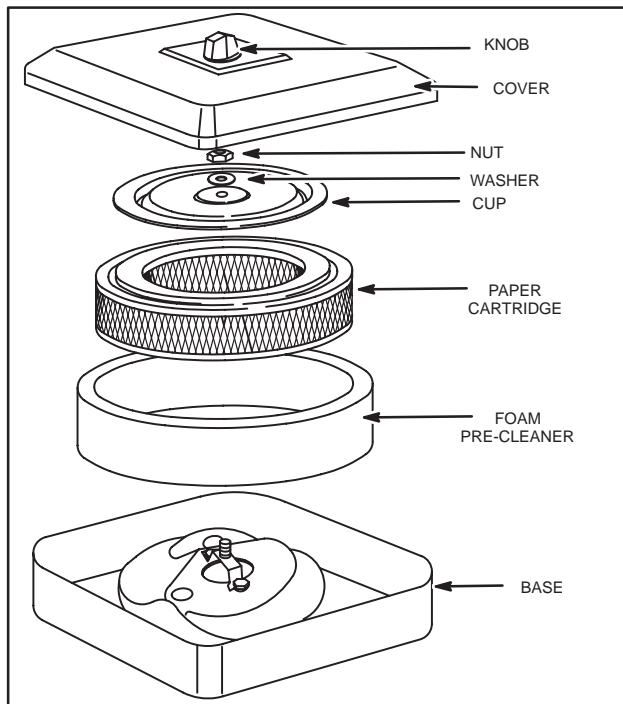
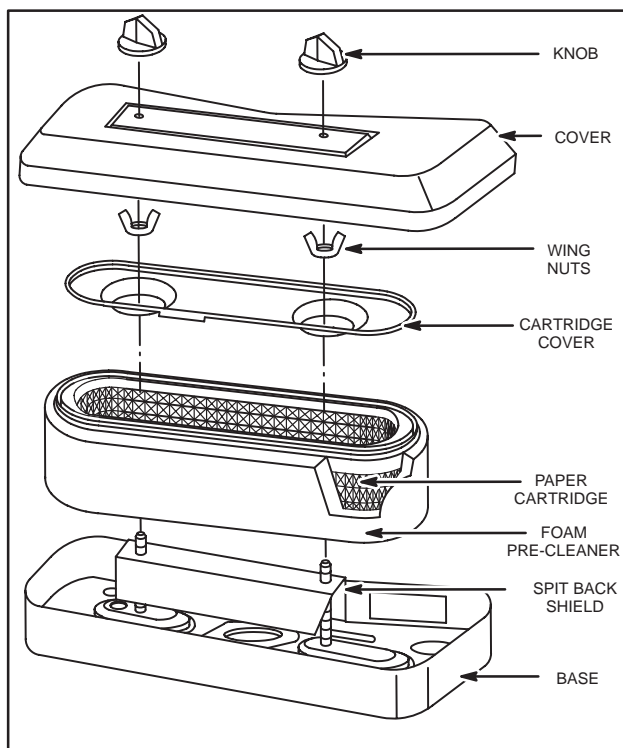

Fig. 6 – Air Cleaner, Horizontal Crankshaft Models (Typical)
Fig. 7 – Air Cleaner, Vertical Crankshaft Models (Typical)
Service/replace foam pre-cleaner at three month intervals or every 25 hours, whichever occurs first, Fig. 6 or Fig. 7. Replace cartridge every 100 hours or every season, whichever occurs first.
NOTE: Replace cup washer if damaged, Fig. 6 or Fig. 7.
1. Remove knob(s) and cover, Fig. 6 or Fig. 7.
2. Reinstall air cleaner cover, Fig. 6 or Fig. 7.